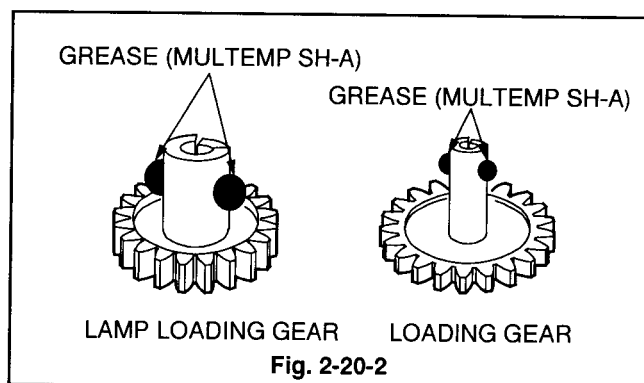

Fig. 2-20-2
- 1 Apply GREASE (MULTEMP SH-A) [859D055O80] to the area specified in Fig. 2-20-2 on the new LAMP LOADING GEAR.
- 3 Apply GREASE (MULTEMP SH-A) [859D055O80] to the area specified in Fig. 2-20-2 on the new LOADING GEAR.